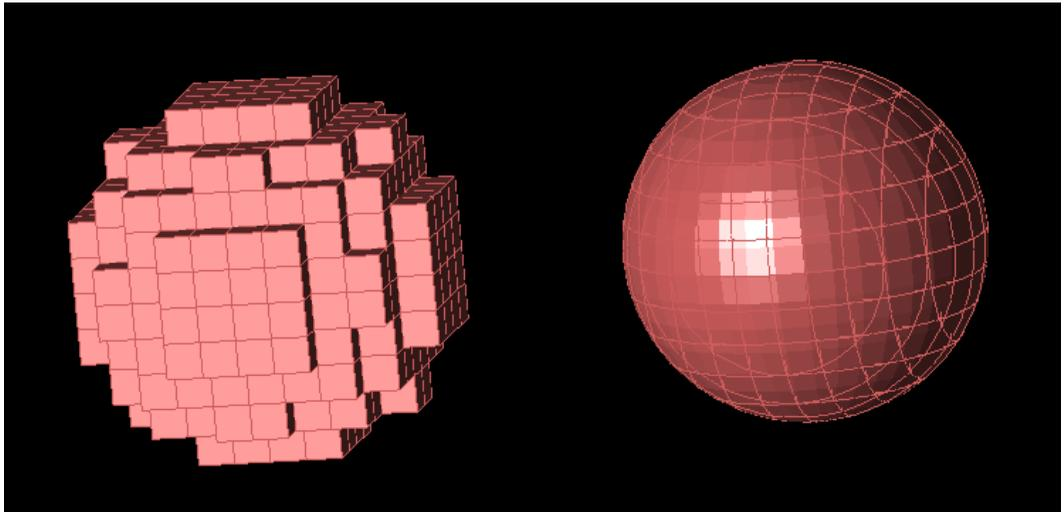

Figure 8.22: Meshed spheres with a conventional mesh (left) and XACT mesh (right)
- Using XACT, curved surfaces can be modeled more accurately than can be done with Cartesian mesh edges only, since the XACT mesh represents the boundary of the object as actually curved inside of a grid cell (see Figure 8.22). Thus, using XACT can improve the accuracy of your simulations for a given grid resolution.